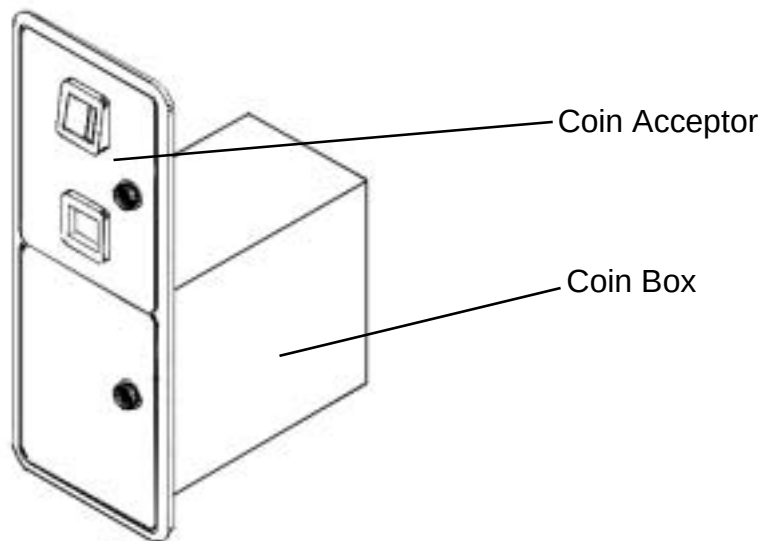

Figure 27. Coin Acceptor and Coin Box
3. Slide the coin box out of the coin acceptor as shown in Figure 27.